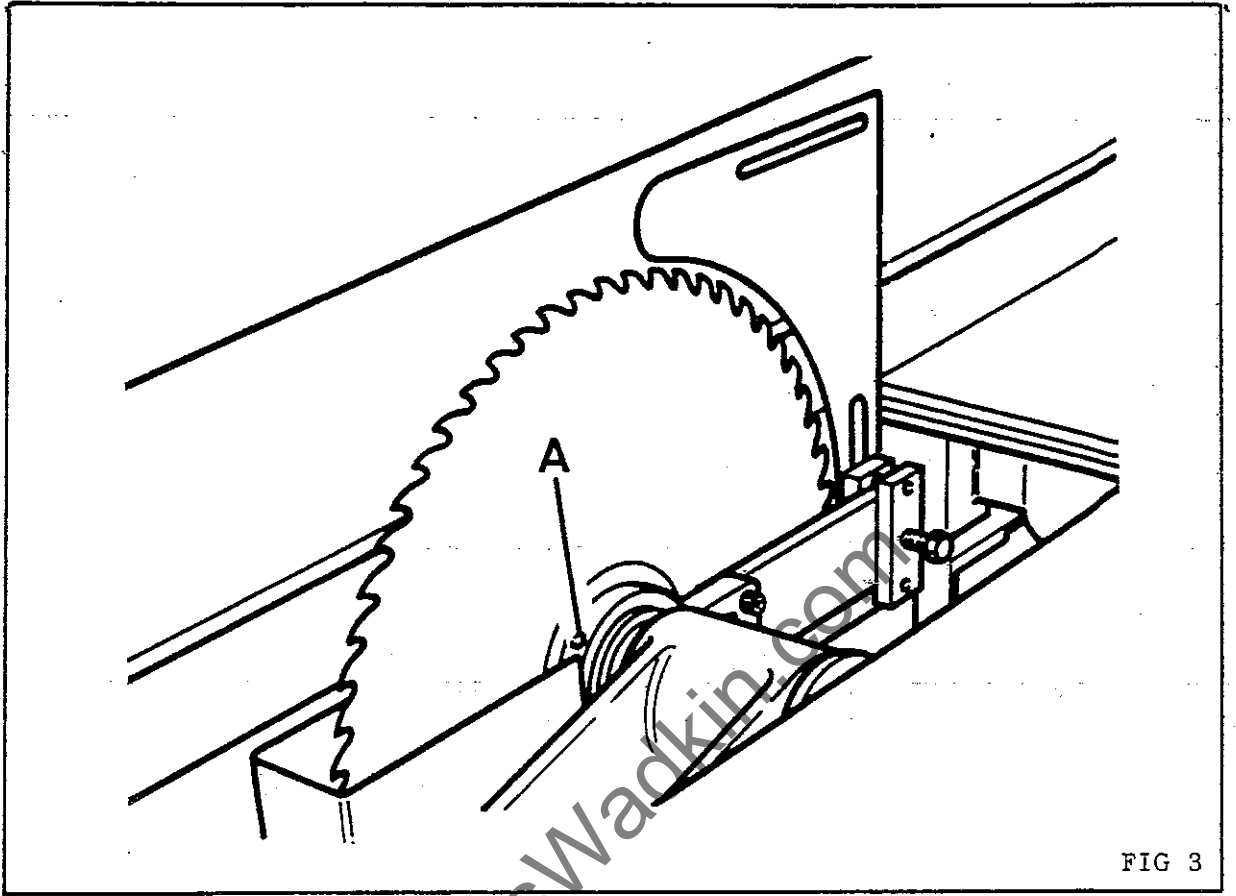

FIG 3
4. Insert toggle bar (supplied) into hole "A" in back saw flange, FIG 3 , then, holding toggle bar, remove the arbor nut (left hand thread) and front saw flange.